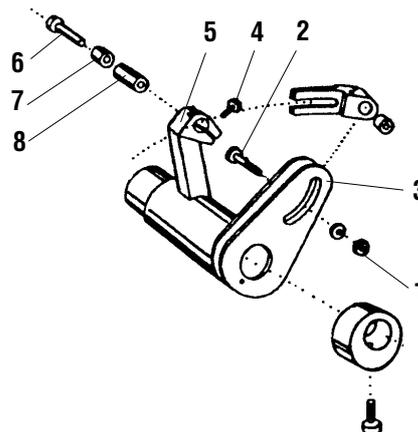

Fig. 18
20. Replacement of the profiled cam (Fig. 18)